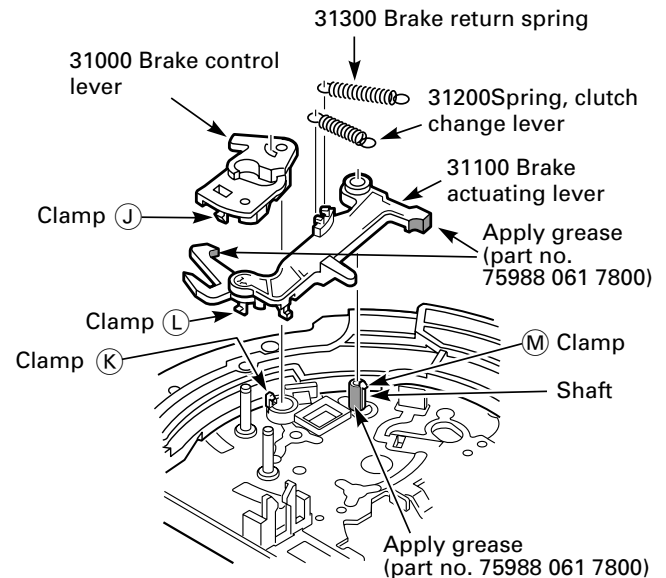

Fig. 8.22
- Disengage clamp **J**, then clamp **K** and remove the brake control lever (Pos. 31000, Fig. 8.22).
- Detach the brake return spring (Pos. 31300) and the clutch change lever spring (Pos. 31200, Fig. 8.22).
- Disengage clamp **L**, then clamp **M** and remove the brake actuating lever (Pos. 31100, Fig. 8.22).
- Follow the lubrication instructions given in Fig. 8.22!
- Detach the brake return spring (Pos. 31300, Fig. 8.22).